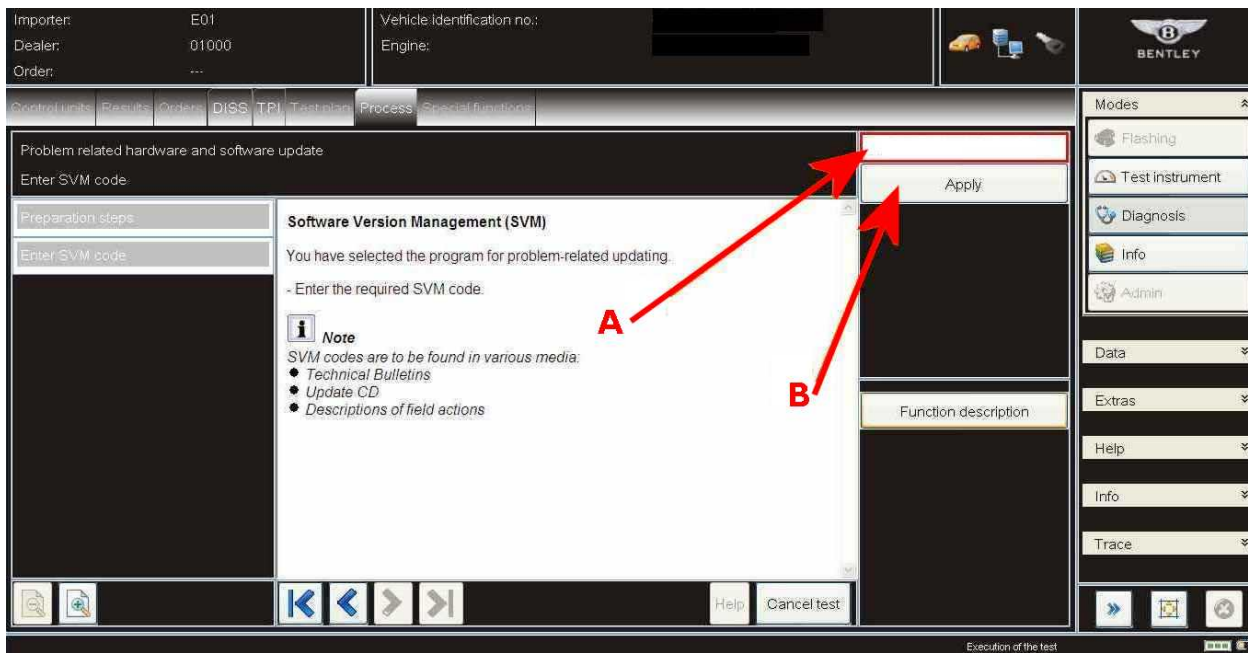

Figure 5
- Once at Figure 5, please insert the SVM code 3Y013MYEMS01 (point A) and select Adopt (point B) and follow all on screen prompts